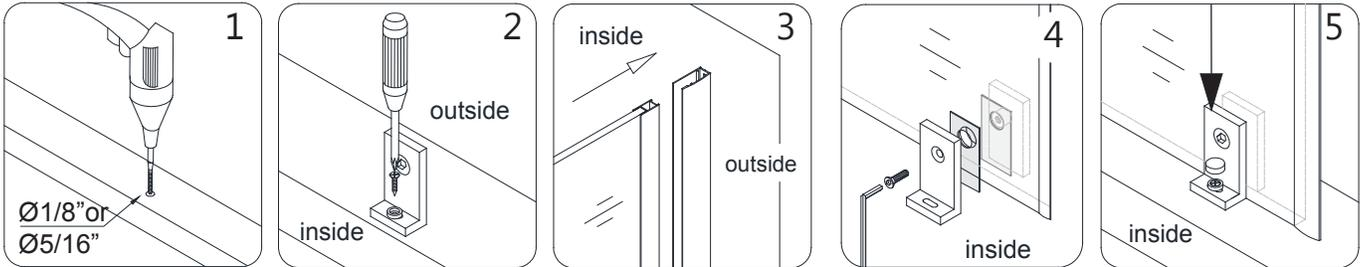
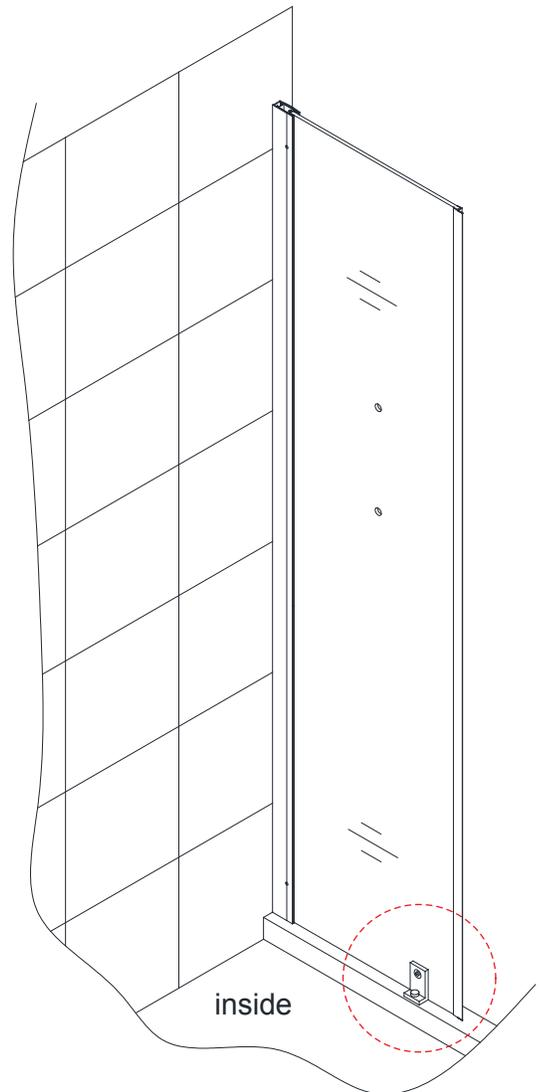

Fig 7a
Fig 7b
** Use an **Ø1/8"** drill bit for installation into an acrylic base OR use a **Ø5/16"** drill bit and an anchor for installation into a tile threshold. Use the **Pan Head Screw ST4.2x35 (#16)** along with a raised white washer to attach the **Bottom Bracket (#18)** to the threshold and snap on the **Decorative Screw Cover (#17)**. (Fig 7a and Fig 7b)**